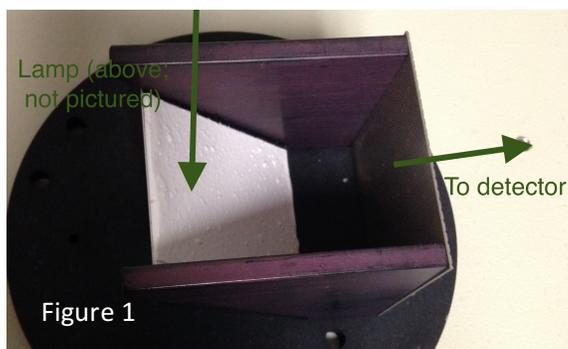

Figure 1
3. Remove the cell holder from the sample chamber and install the scattering unit (no screws necessary). Orient the scattering unit such that the light coming from the lamp will reflect off the white surface, pass through the grate, and then proceed to the detector. See Figure 1.